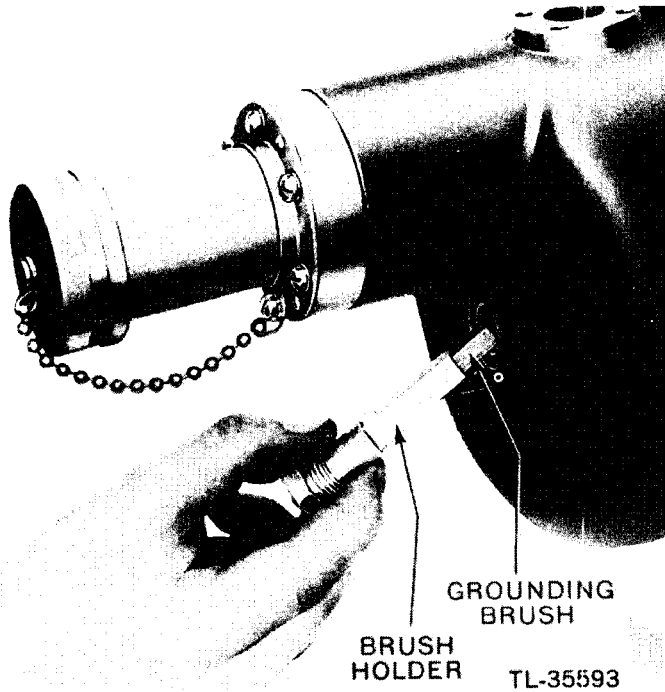
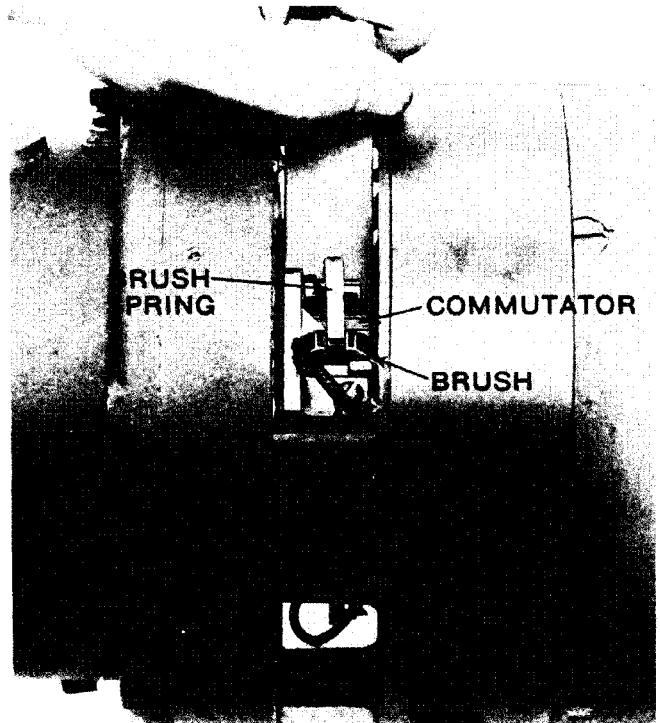

Figure 10. Inspecting grounding brush
Figure 11. Cleaning commutator
f. Brushes. (1) Inspect the brushes on the commutator every 500 hours of operation. Under normal operating conditions, the life of the brushes will be about 1,000 hours. However, arcing may cause them to wear excessively.
(2) Replace the brushes only if worn so that the brush spring rides on the brush holder or if the lead wire is loose. To inspect, loosen the screw on the brush-head band and slide the band to one side (fig. 11).
(3) The brushes must fit freely in the brush holder. If binding occurs, sand lightly on the side showing bind-marks. New brushes are formed to the shape of the commutator and do not require special care in wearing-in.
(4) Inspect the grounding brush in the spark-wheel housing every 500 hours (fig. 10). Tip up the engine end of unit and remove the brush-holder assembly in the end of the spark-wheel housing. Use extreme care not to tip down the unit when doing this, since the brush assembly will drop out of the holder and necessitate removing the complete spark-wheel housing.
g. Commutator (fig. 11). (1) Every 500 hours, slide back the brush head and inspect the commutator. The commutator ordinarily will not require cleaning for a long period of time. It need be cleaned only if excessively carbonized or scored by excessive arcing.
(2) To clean the commutator, place a strip of sandpaper (No. 00 to No. 8/0, not emery) (ref. 197) over the end of a narrow block of wood. Press this block lightly against the commutator, with the engine running. Move sandpaper across the width of the commutator until entirely clean.